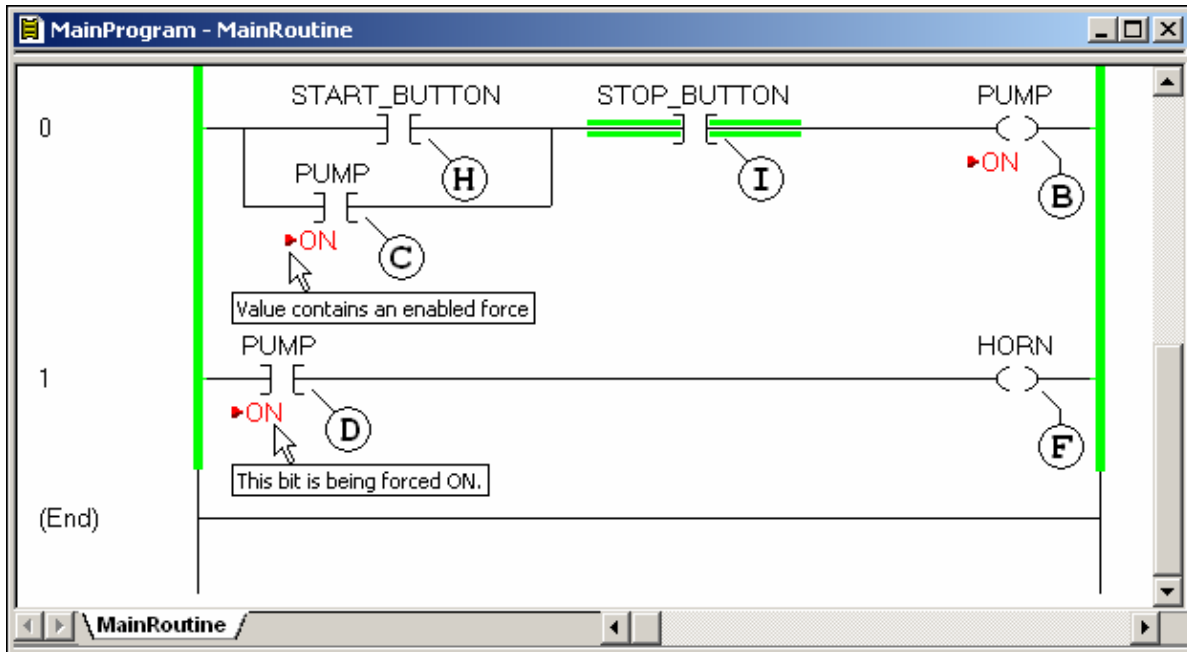

Figure 5 - Program with Pump Forced ON
Notice that the screen shot for Figure 5 is taken from Version 15 of RSLogix5000 for a ControlLogix system. Notice that the pop up "Tool Tip" for the word "ON" at Position D tells us: "This bit is being forced ON". Pointing to the little triangular "Force Enabled Icon" at Position C tells us that the: "Value contains an enabled force".
**Question 12** - Begin with the conditions shown in Figure 5. Notice that all of the OTE and XIC instructions associated with the Pump are marked as forced ON and that the forces are currently enabled. The **Pump** device in the field is ON. Choose the BEST answer which MOST LIKELY describes the operation of the **Horn**.
**Question 13** - Begin with the conditions shown in Figure 5. Notice that all of the OTE and XIC instructions associated with the Pump are marked as forced ON and that the forces are currently enabled. The Pump device in the field is ON. Suppose that we right-click and perform a "Toggle Bit" operation at **Position B**. Notice that Position B is an OTE to control the **Pump**. Choose the BEST answer which MOST LIKELY describes the operation of the **Horn**.
**Question 14** - Begin with the conditions shown in Figure 5. Notice that all of the OTE and XIC instructions associated with the Pump are marked as forced ON and that the forces are currently enabled. The Pump device in the field is ON. Suppose that we right-click and perform a "Toggle Bit" operation at **Position D**. Notice that Position D is an XIC for the **Pump** which is located in the control rung for the **Horn**. Choose the BEST answer which MOST LIKELY describes the operation of the **Horn**.
**Question 15** - Begin with the conditions shown in Figure 5. Notice that all of the OTE and XIC instructions associated with the Pump are marked as forced ON and that the forces are currently enabled. The Pump device in the field is ON. Suppose that we right-click and perform a "Toggle Bit" operation at **Position F**. Notice that Position F is an OTE to control the **Horn**. Choose the BEST answer which MOST LIKELY describes the operation of the **Horn**.